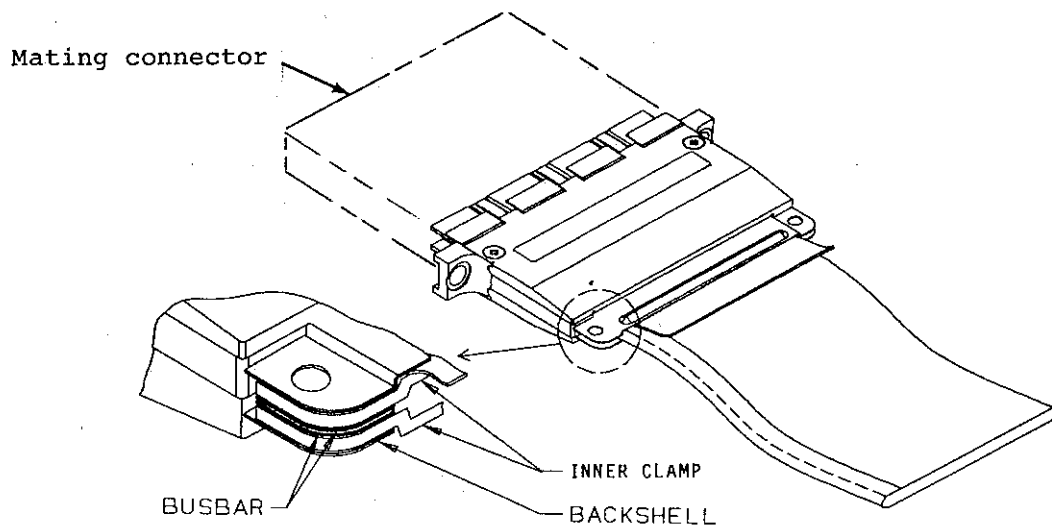

Figure 26. Inserting Inner Clamps
12. Insert the two inner clamps (with rubber inserts) into the rear of the backshell, between the shield flaps and the shield (Figure 26).